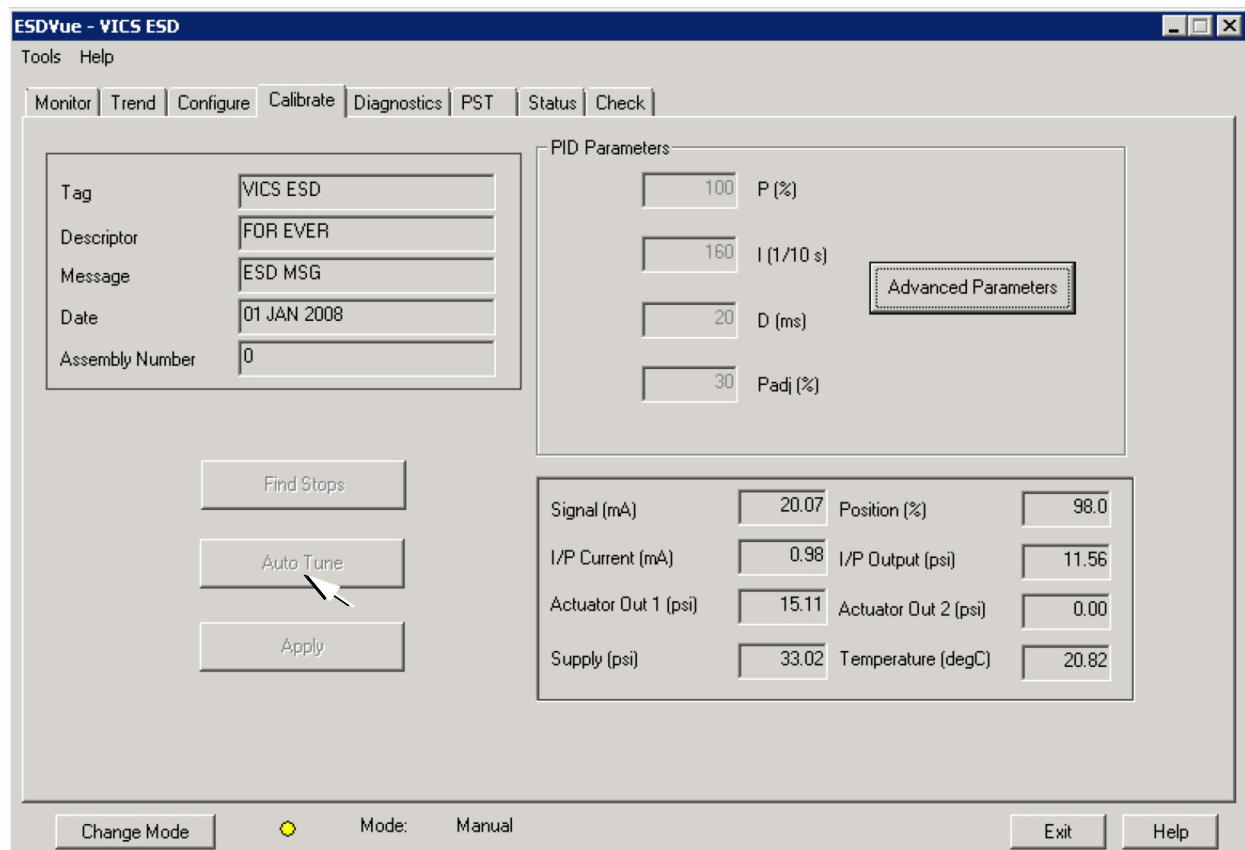

Figure 132 - Launching Auto Tune
1. Click **Auto Tune** (Figure 132).